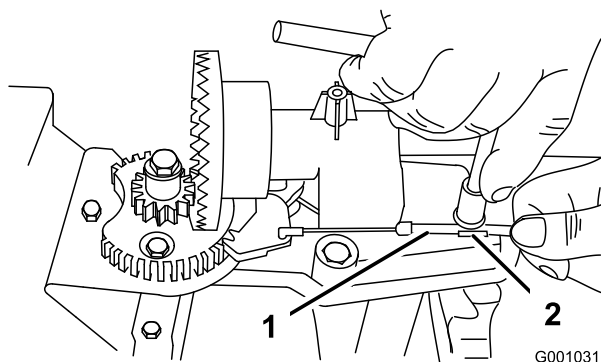
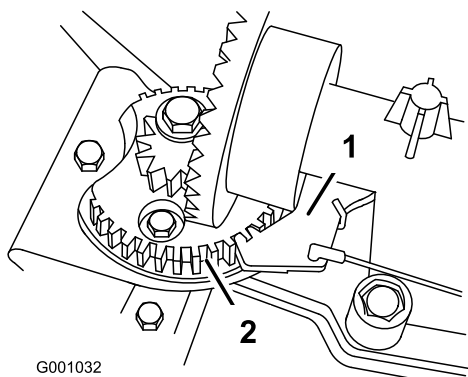

Figure 47
Figure 48
**Note:** The latch is spring loaded and will naturally move into the teeth of the gear (Figure 48).
2. Loosen the bolt on the cable clamp (Figure 47).
3. Grasp the cable conduit and move it toward the front of the machine until the discharge chute latch fully engages the gear teeth (Figure 47 and Figure 48).